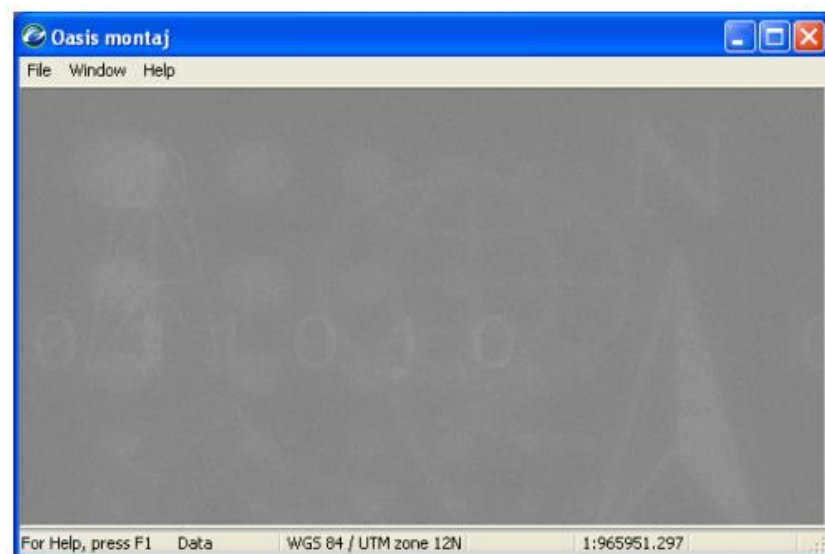

Figure 1.57. – Oasis montaj interface window
1. On the Start menu bar click *Programs* and then click *Geosoft* and then click *Oasis montaj Viewer* | *Oasis montaj Viewer*, fig. 1.57, or